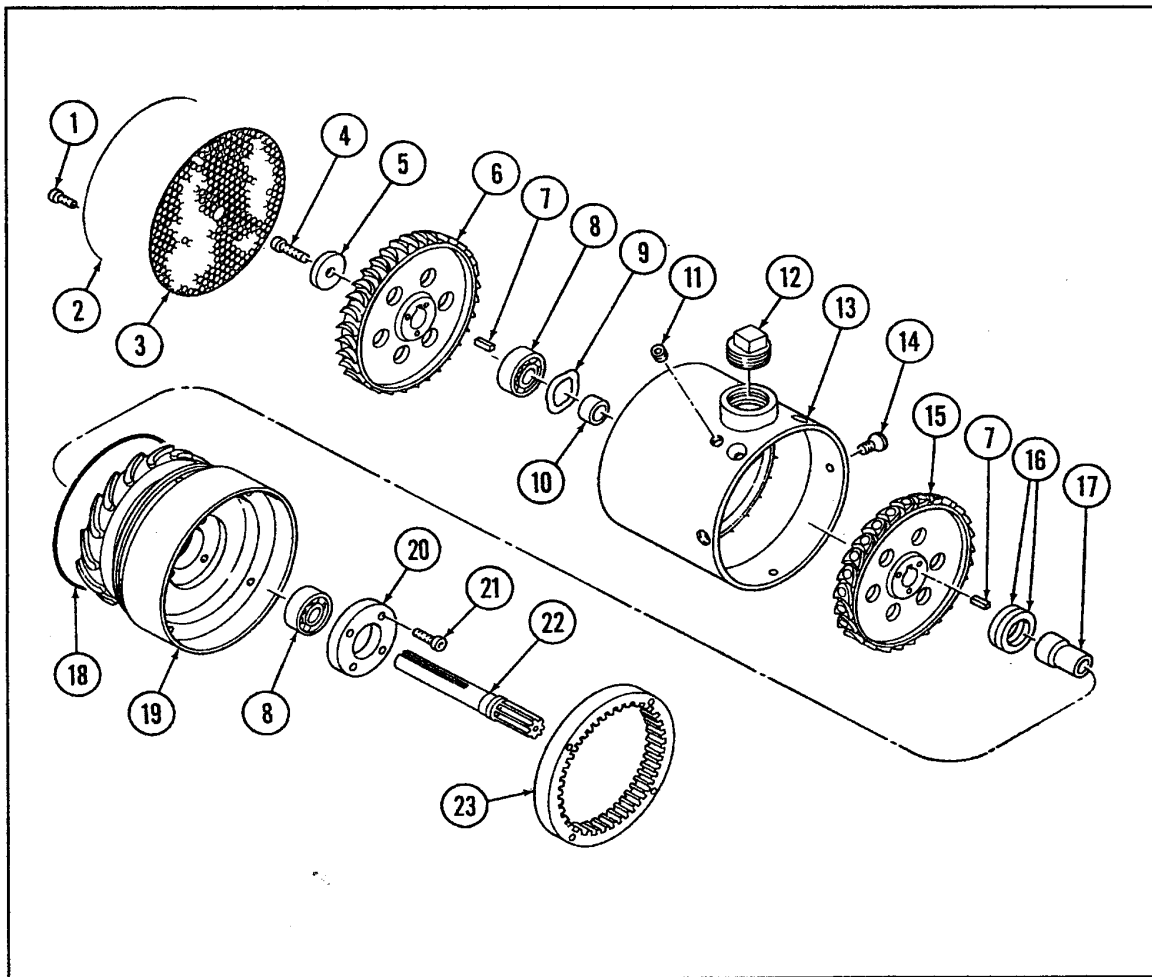

Figure 3. Turbine Housing Assembly
The Turbine housing assembly, refer to figure 3, consists of a stage one (15) and a stage two (6) turbine rotor mounted on sun gear shaft (22). The front bearing (8) is secured by a retainer plate (20) and the aft bearing is pre-load by a spring washer (9).